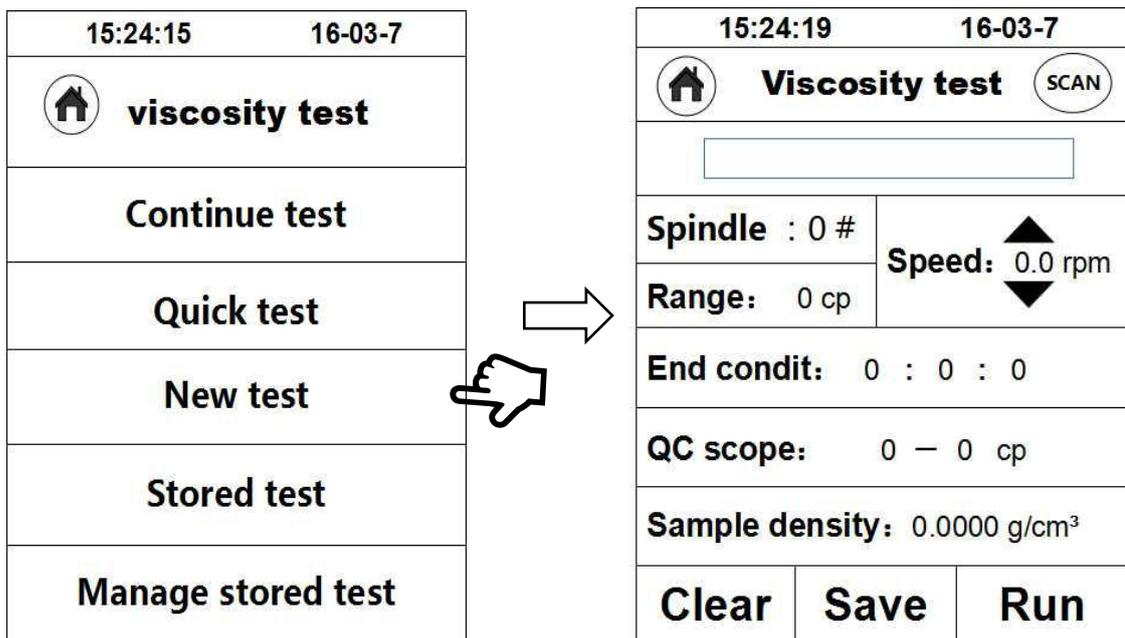

Fig. 19
1.2 Click one of the options of “Continue test”, “Quick test” and “New test” according to the test demand, for example, click “New test” to enter the interface for parameter setting (Fig. 19).